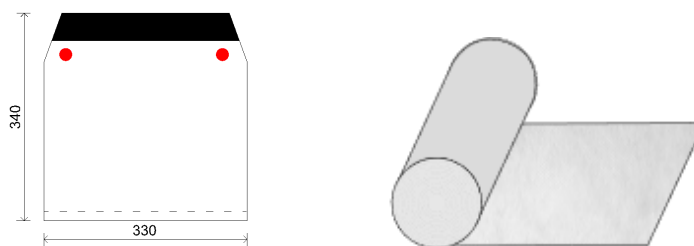
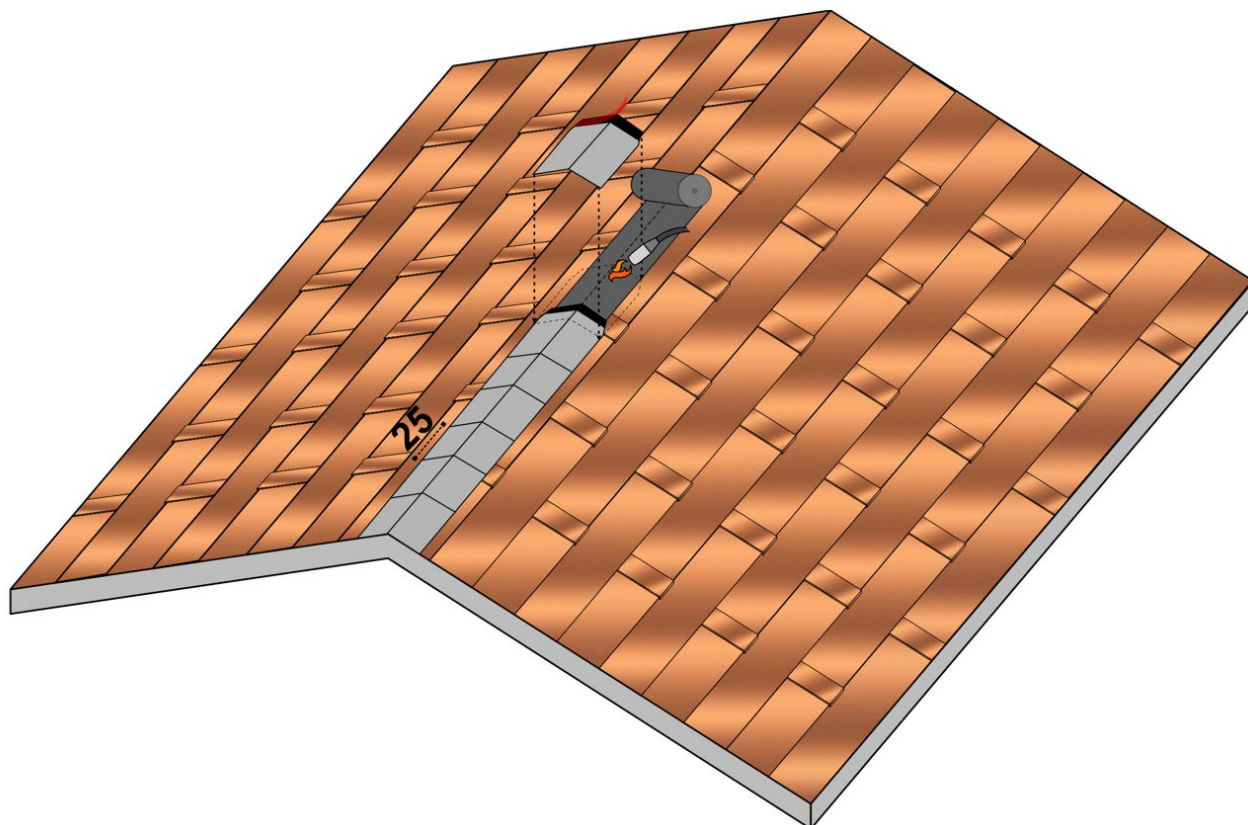

Fig. 13 - Prestige Compact Ridge box contents
Fig. 24 – Ridge elements installation
- For the execution of the ridge, take the Prestige Compact Ridge box and remove the Top Roll Colmo SA and the ridge components, which are already cut and shaped, contained within it - Fig. 13.
- For the ridge installation, take the Prestige Plus Ridge Box containing the pre-cut and shaped ridge elements – see Fig. 13. Note that, in this case, the roll of Top Roll Ridge SA contained in the box will not be used. Instead, apply a strip of Safety EPP bituminous membrane with a torch to the ridge – see Fig. 24.
- Install the prepared ridge elements, securing them to the underlying membrane with the torch flame, always heating the membrane and not the shingle element. Continue installing the remaining ridge elements in sequence, leaving an exposed section of 25 cm between each element, as shown in Fig. 24.